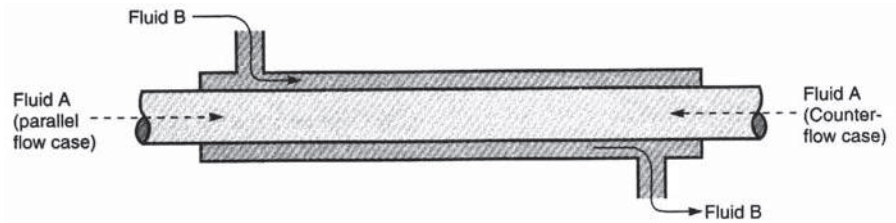

Fig. 3: Tubular heat exchanger
• **According to constructional features Tubular heat exchanger:** Figure 3 shows a tubular heat exchanger. This type of heat exchanger is also called tube in tube or concentric tube or double pipe heat exchanger.